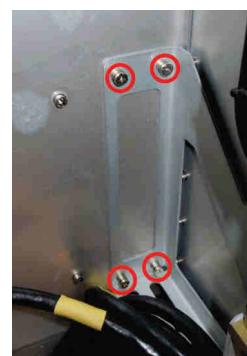
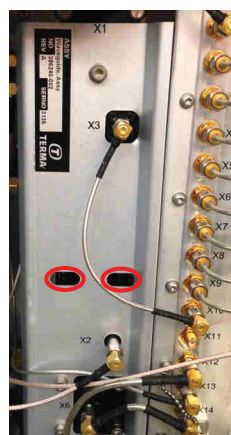

Fig. 7.44 4 screws
Fig. 7.45 Two slots
- 11 Loosen the four screws fixing the Waveguide Assy to the back - see Fig. 7.44 (p. 145). The two lower screws are accessible through the cable tray at the bottom - the two upper screws are accessible through the two slots on the front plate indicated in Fig. 7.45 (p. 145). All four screws are captive. Use tool 9.